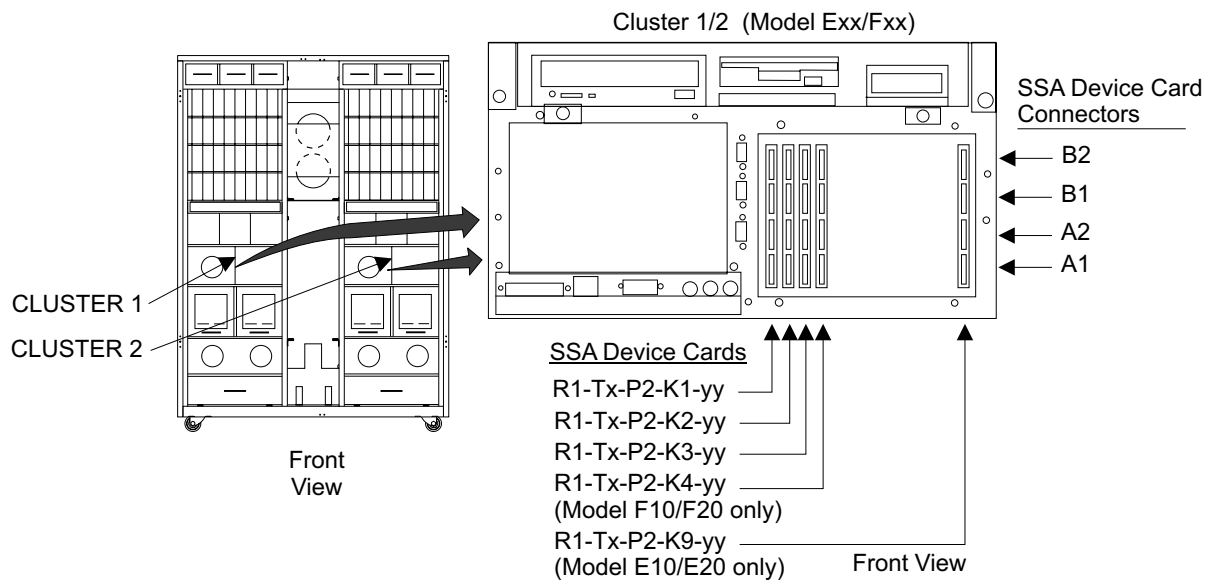

Figure 102. Cluster SSA Device Card Locations (S008022m)
2. Locate the cluster and the SSA device card using the information below and in Figure 102.